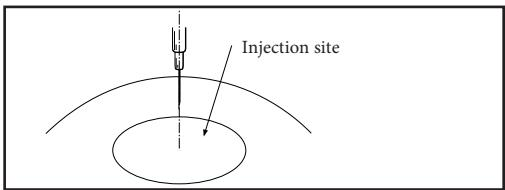

FIGURE 10
- a) Insert a new, sterile 21-gauge (or smaller) standard 12° bevel hypodermic needle into injection site. Ideally, the needle should enter perpendicular to the top of the injection site as shown in Figure 10.